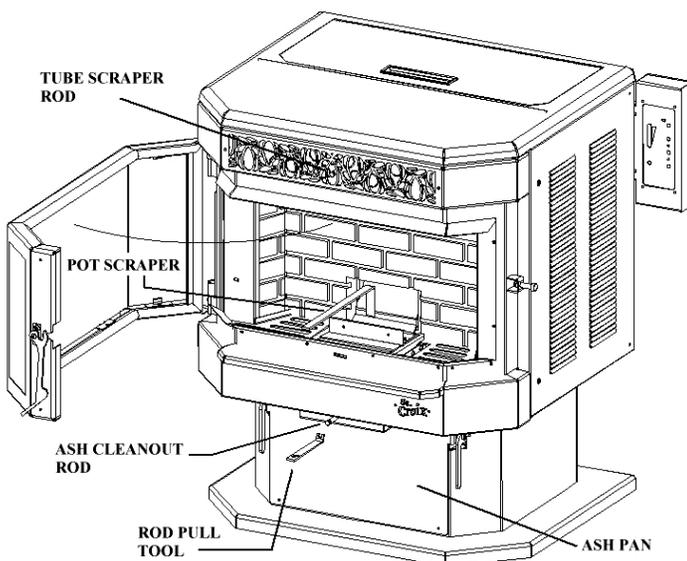

Figure 7
1. Check Grate Weldment and Shaker Plate (See figure 7) to determine if holes are plugged. Clean as needed. With proper precautions the grate may be partially cleaned while the stove is hot. Follow these steps:
4. Once or twice daily pull the Tube Scraper Rod, (See figure 7) out and back to clean heat exchange tubes. Failure to operate the tube scraper daily may result in poor combustion and loss of heat output. This should be done when the stove is cool or operating on the low temperature setting. Use the Rod Pull Tool shown in Figure 7 with the Tube Scraper Rod.